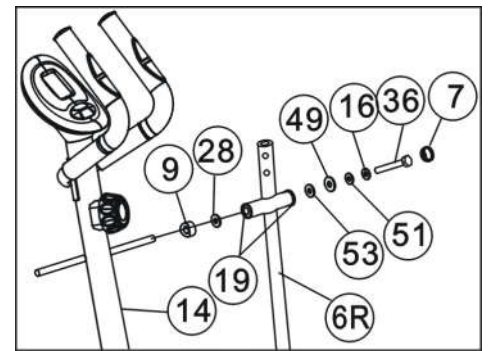

Figure 6
- Attach one Arc spacers (9) and Wave washer (28) to the right end of horizontal axle of Front upright frame (14). (make the gouge of the arc face inside)
- Insert right Handlebar support (6R) to the right end of horizontal axle of Front upright frame (14) (the long side of the handlebar face inside) and secure it with one Plastic flat washer (53),  $\Phi 8$  Big washer (49),  $\Phi 8$  spring washer (51), M8 Special washer (16), and M8×16 Bolt (36).
- After assembled the Nut cap (7) to the M8×16 Bolt (36), the right Handlebar support (6R) can move freely.
- Do the same steps as the above to assemble the left Handlebar support (6L). (Refer figure 6)